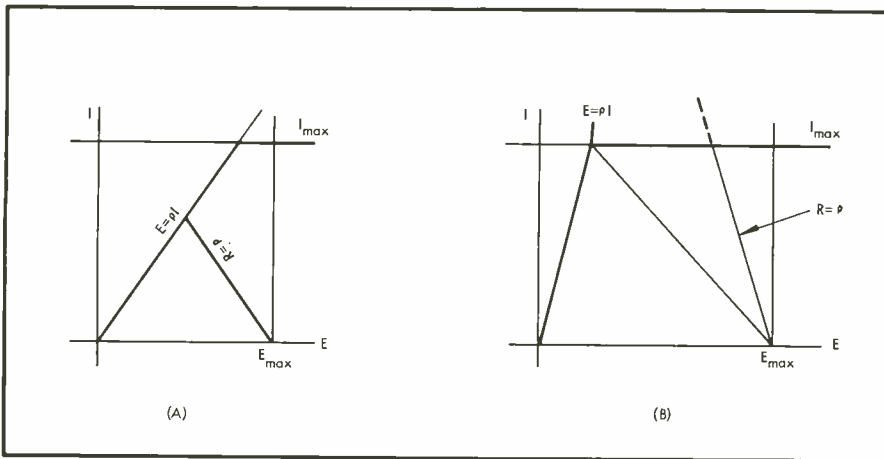

Fig. 8. The matched load is only correct if other limitations do not intervene, as they do in (B).
However, this is only true if we are working within the limitations of Fig. 7. The result shown in (A) of Fig. 8, the matched form, is correct, but if we get the situation shown in (B), the current limitation takes charge and we can get the most power out by increasing the load resistance until the load line falls into the corner of the characteristic.